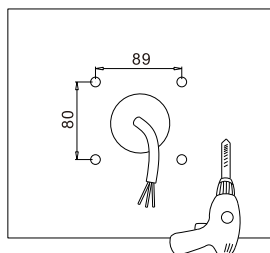

Figure 3-1
1. Cut holes on the wall according to locating plate.(Figure 3-1)